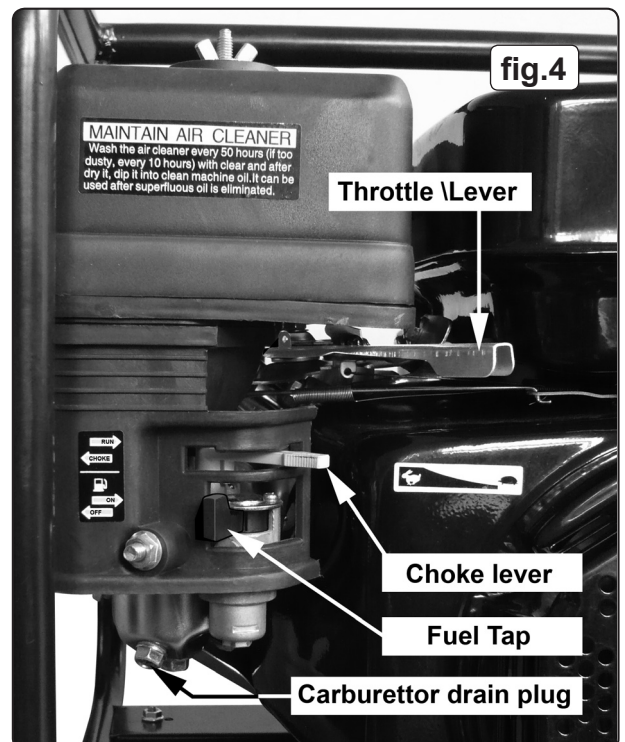

fig.4
- 5.1.6 Fig.4 shows the fuel tap in the OFF position. Push the fuel tap over to the right to the open position.
- 5.1.8 Move the throttle lever left to the fully open position then ease it back slightly, fig.4 shows the throttle in the fully closed position.
- 5.2.1 When pumping has finished stop the engine by pushing the throttle lever fully to the right. (See fig.4) and turn the engine switch to the OFF position.
- 5.2.2 Turn off the fuel tap. (See fig.4)